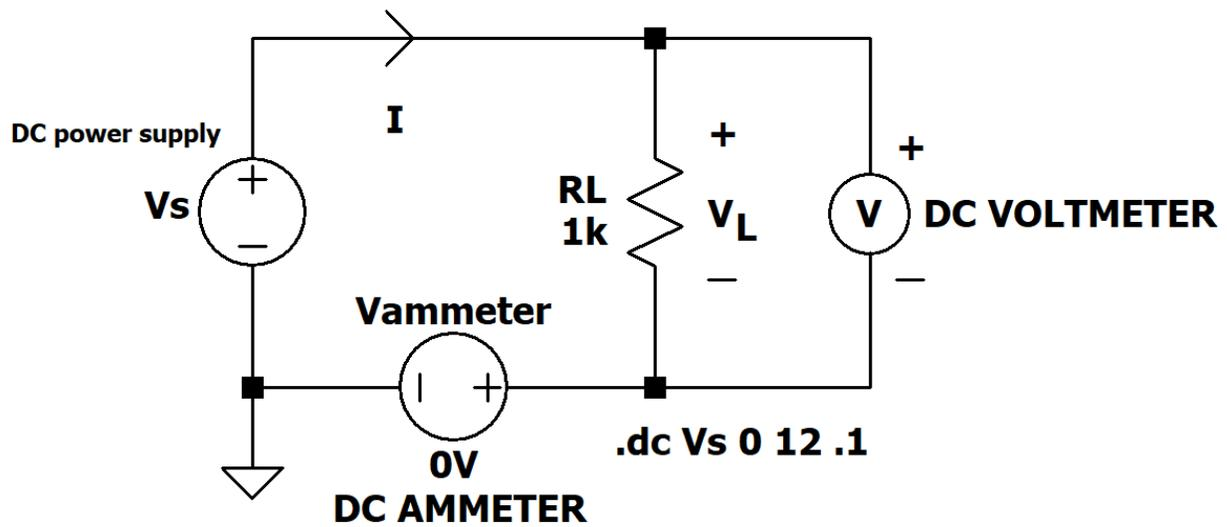
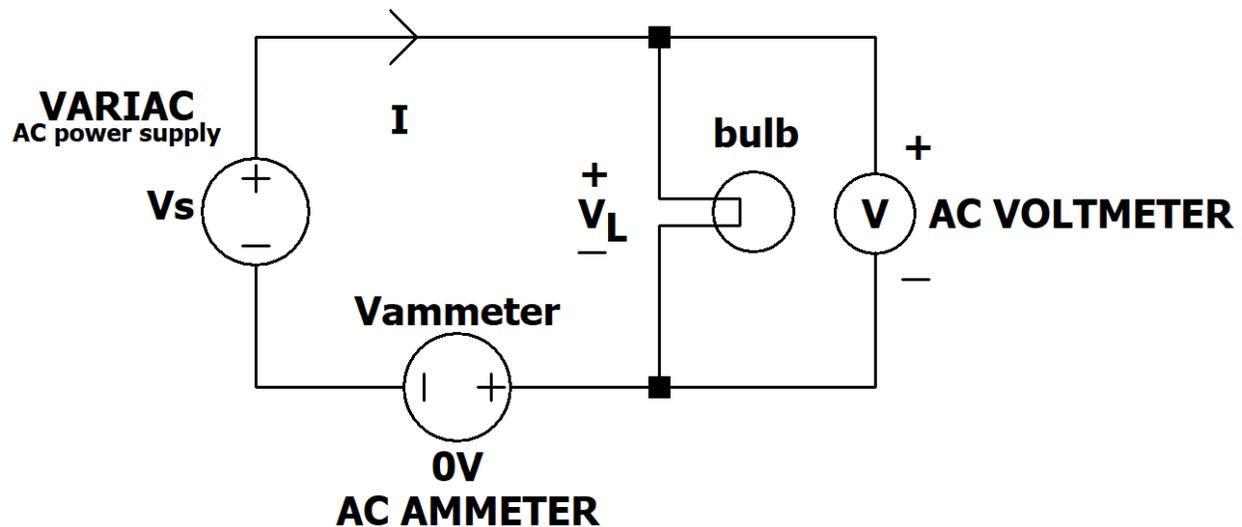

Figure 1. Simple DC resistive circuit
Figure 3. Simple AC light bulb circuit
3. Consider the circuit of Figure 1.
2. **Be sure the DC power supply is OFF and set to 0V.** Use a 1.0 k $\Omega$ , ¼ W resistor, along with two DMMs, to construct the circuit of Figure 1. Note that voltage  $V_S$  is ACROSS the resistor and current  $I$  is THROUGH the resistor. There is no connection due to the reference ground.
*Note that the VARIAC dial scale is a percentage and NOT volts.* Construct circuit of Figure 3 using the low-wattage incandescent bulb of laboratory procedures step 6 as instructed by your laboratory instructor. Use the VARIAC as the voltage source and the light bulb as the resistive load (note correspondence between this circuit and the circuit of Figure 1).